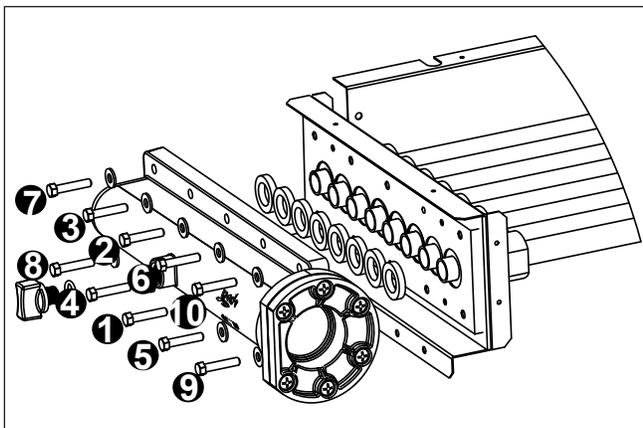

Figure 11. Header Bolt Tightening Sequence
16. Thread on the 10 bolts and washers and hand tighten. See Figure 11.
17. Use a torque wrench to tighten the bolts on each header to 5.4 Nm (4 ft-lbs). The bolts must be tightened in the sequence indicated in Figure 11.